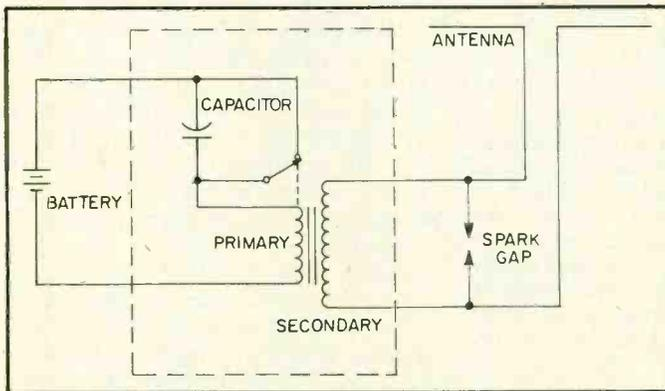

Fig. 1. This is the schematic of Hertz's original spark gap transmitter. There was no key, as it was set to oscillate continuously.
Before examining details of the circuit, let's talk about the determining measure of a bandpass filter's sharpness or selectivity. Fig. 1 shows a graph of filter output voltage versus frequency. Here it is assumed that the input signal is a sine wave of varying frequency but constant amplitude. As you can see, the output voltage reaches a maximum at  $f_0$ , called the center frequency, and drops off as frequency is increased or decreased relative to  $f_0$ . At frequencies  $f_1$  and  $f_2$ , the output has dropped 3 dB (decibels) below its maximum value, that is, to about 70% of the peak voltage at  $f_0$ . The filter is said to have a -3 dB bandwidth equal to  $f_2$  minus  $f_1$ , as
Fig. 1. Above is a sample graph depicting the bandpass curve for a theoretical filter derived from the formula at the left of the graph. This formula demonstrates the manner in which "Q" derives.
**Radio Waves.** Let's start near the beginning. The first man to generate radio waves and have a clear idea of what he was doing—an important distinction—was Heinrich Hertz. Hertz's transmitter consisted of an induction coil, spark gap and antenna. (Fig. 1) When the battery was attached to the induction coil current flowed through the primary winding and through the closed interrupter contacts back to the battery. When the current reached a certain level, the magnetic flux in the core was great enough to pull the movable arm of the interrupter away from the fixed contact, suddenly breaking the circuit. This induced a much higher voltage in the secondary, causing a discharge across the spark gap and the generation of high frequency radio waves—the wavelength being determined solely by the antenna.
**Calculate Your Needs.** The circuit in Fig 1 is sufficient to operate as a hobbyist-grade voltage calibrator. Only a power supply (in this case a battery), a resistor, the regulator IC, and a means for turning it on and off are required.
5 mA range. In the example of Fig. 1 we have selected 8.75 mA for a very special, high level, technical reason—we had a 4.2-volt battery and a 200-ohm resistor in the junkbox at the time.
In the circuit of Fig. 1, we used a 4.2-volt mercury battery, and selected a reference current of 8.75 mA. Find the value of the resistor needed for  $R_I$ . A ZN458 (2.45 volts) is used,